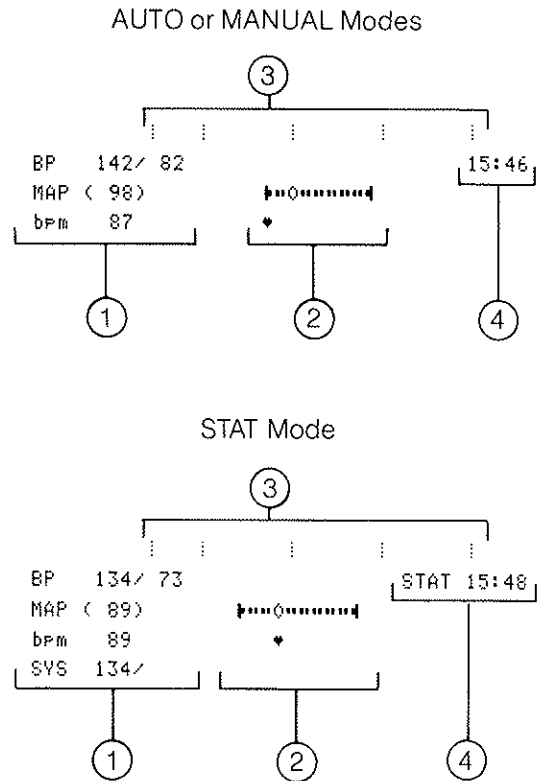

Figure A-4
The printer format can be divided into three sections, left to right, for each determination printed. Blood pressure (BP) as a slashed systolic/diastolic value, mean arterial pressure (MAP) as a parenthetical value, and the pulse (bpm) value are printed on the left side of the printout for any AUTO or MANUAL determination. STAT mode determinations also list the value of the first (flashed) early systolic (SYS) pressure in addition to all parameters printed for AUTO or MANUAL determinations. (See Figure A-4, Item 1.)
The next (middle) section represents the BP, MAP, and pulse parameter values graphically, forming a trend plot. First a line is drawn. The left end of the line represents the Diastolic pressure value and right end represents the Systolic pressure value. A diamond is placed on the line to indicate mean arterial pressure, and a heart symbol appears below the line to indicate pulse rate. (See Figure A-4, Item 2). Vertical tick marks above each printed determination provide the scaling for the trend plot. From left to right these tick marks have values of 25, 50, 100, 150, and 200 for all parameters represented (i.e. pressure values in mmHg and pulse value in bpm). (See Figure A-4, Item 3.)
The last section, on the right side of the printout, prints the time (military) that the determination was made (if the monitor's internal clock has been set, see Section 8.6). This section also contains the word STAT when applicable to indicate that the determination was part of a STAT mode series. (See Figure A-4, Item 4.)